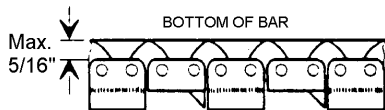

**Figure 9. Pulling the Chain**
3. Using the saw bar adjustment screw (figure 8), tighten the chain until you are still able to rotate it one full revolution by hand (figure 9).